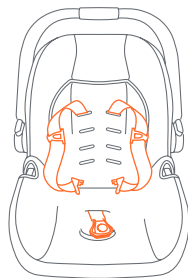

Fig. 35-1
3. Place the Safety Seat on a firm and level surface. Move the carry handle to the non rocking position. Loosen the Harness Straps by pulling on the straps while pushing on the Harness Adjuster Button located below the pad just in front of the buckle. Unfasten the Harness Chest Clip. Unbuckle the Harness Straps and drape the Harness Straps over the Seat back or to the sides of the Safety Seat (Fig. 35-1).